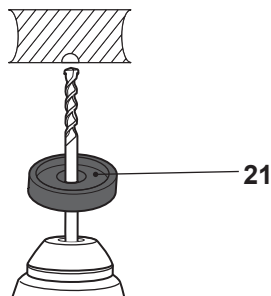

Fig. 8
Slide the dust cover (21) over the drill bit to protect the user and the product from dust or debris (Fig. 8).